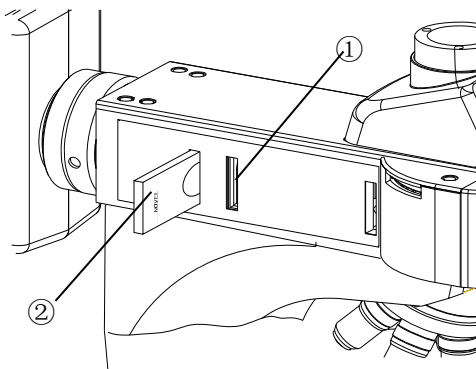

Fig.7
1. The middle knob ⑥ is the mirror reflected image focusing knob which can sharpen the reflected image.
2. The knobs at both sides ⑦ can adjust the up/down or left/right position of the mirror reflected image.
3.2.8 Mounting ND filter (Fig.7)
2. There are two kinds of ND filters for option: ND6 and ND25 for position ① and ② respectively (Fig.7). To prevent the ND filter from being cracked, insert the filter with the indication surface facing the observation side.